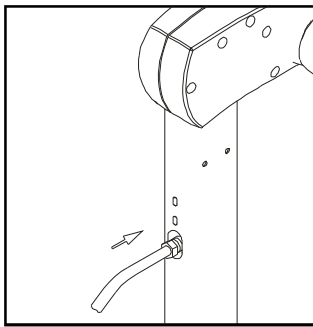

Fig.11-2
- (c) Refilling with lubrication tube. (see fig.11-2)